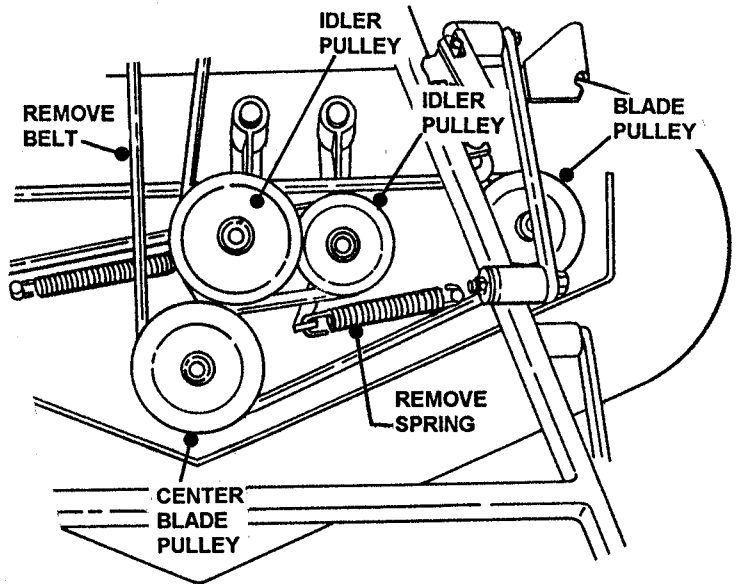

FIGURE 35
6. Remove old belt from right hand spindle pulley and center pulley bottom groove. See Figure 35.
1. Route new Belt, part number 2-9261 for 48" decks, onto bottom groove of center Pulley and right hand Pulley. Refer to Figure 35.
2. Place Idler Adjusting Rod through hole and install Spring. Refer to Figure 35.